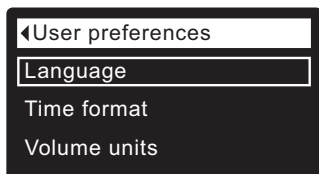

FIG. 58
3. Press the SELECT (O) button to display the User preferences menu (See Figure 58).
7. Press the SELECT (O) button. The display will go back to the User preferences menu (Figure 58).